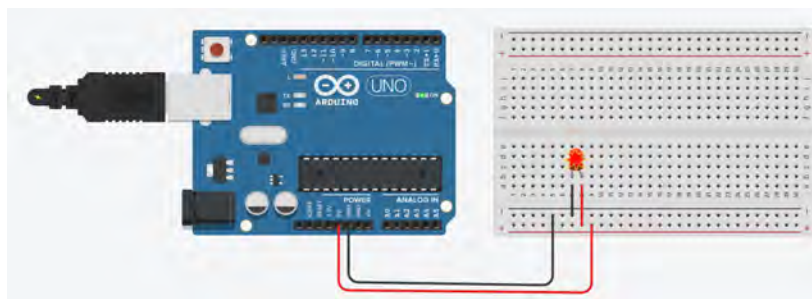

Figure 13.3: Initial Setup
7. Connect them as shown in Figure 13.3 via left clicking with your mouse. You can set the cable color from top left. We use **red** for positive and **black** for ground. Then from top right click on the **Start Simulation**.